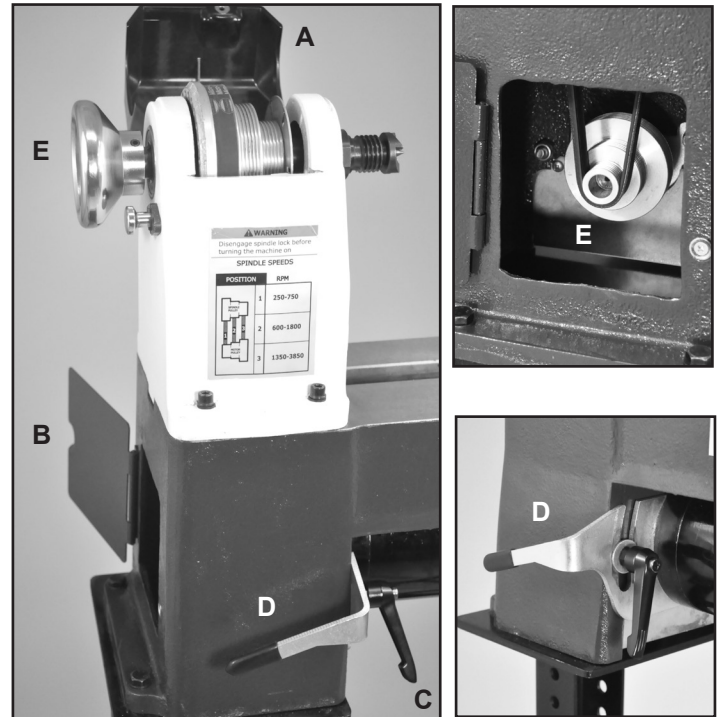

FIG. 10
3. Open the top Headstock Cover (#35, FIG. 10, A) and the left side, Bed Cover Plate Door (#8, B) to gain access to the belt and pulleys that are inside of the headstock.